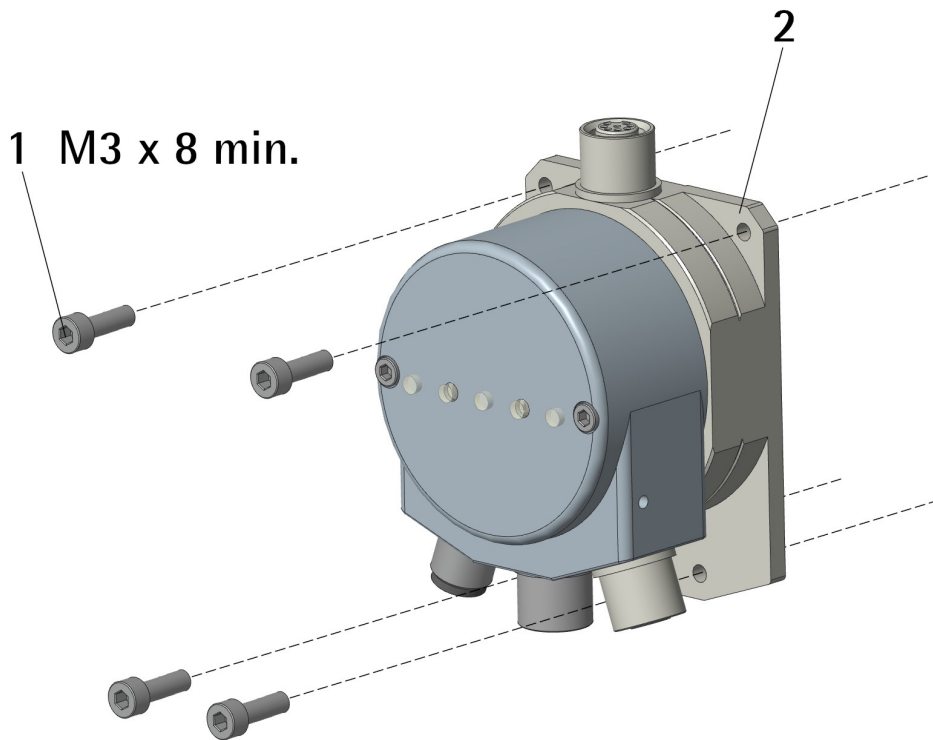

Figure 2 - Installation on panel
3.2 Installation on panel (Figure 2)